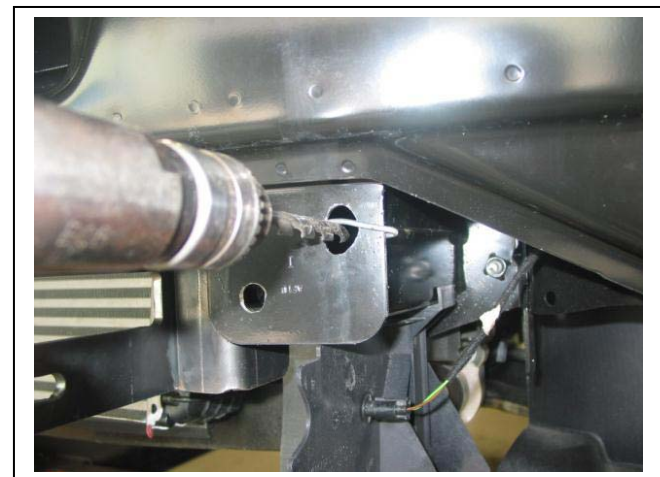

Figure 6: Enlarge hole in front of chassis rail
6. On passengers side: Enlarge existing hole in front of crash can to accept 3/8 bolt and washer. **See figure 6.** Place ECB steel mount (supplied) behind bumper support to the inside of crash can as high as possible. Mark and drill two 10mm holes on the inside of the crash can. On top of crash can, drill and enlarge hole to accept 3/8 bolt and washer on wire (as per drivers side). **Blow filings clear and treat all exposed metal with a rust inhibitor.** Fit 3/8 x 1 1/2 bolt on wire, flat washer, spring washer and nut (supplied). Cut off wire tails and crimp onto crash can. **See figure 7.**